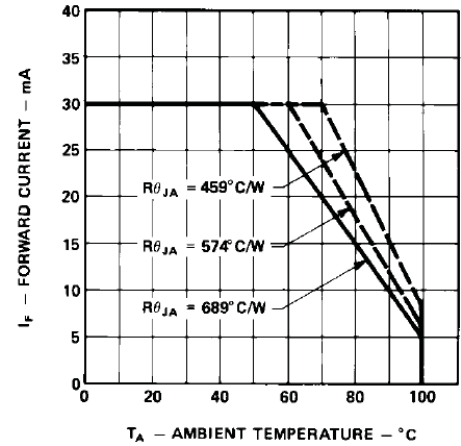

Figure 4. Maximum forward dc current vs. ambient temperature. Derating based on  $T_{J Max.} = 110^{\circ}C$ .
2. Derate linearly as shown in Figure 4.